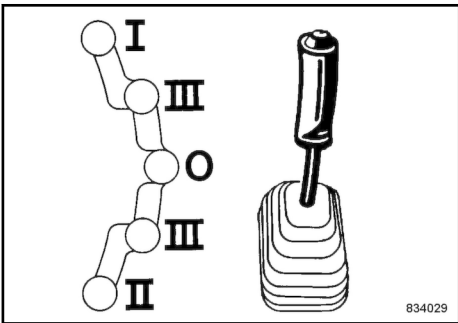

Fig. 152
13. Shift the travel lever ↪ Fig. 152 approx. 1/3 to forward direction.